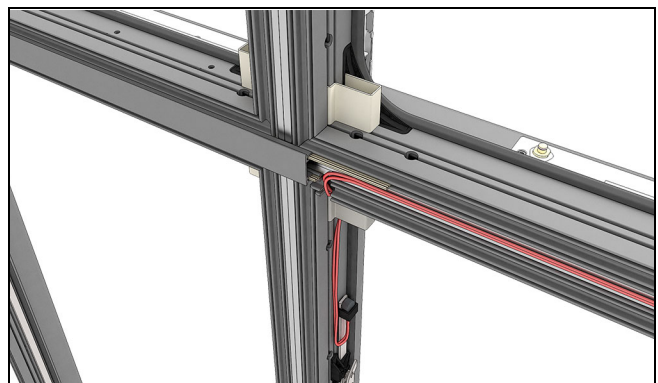

Figure 40 Horizontal Standard Mull
- 3. Horizontal Mulls:** first unlock the window that houses the sensor. See Figure 40. Fish the wire through the notch in the head jamb. Run the wire down the length of the mull pin being sure not to pinch the wire with the mull cover.